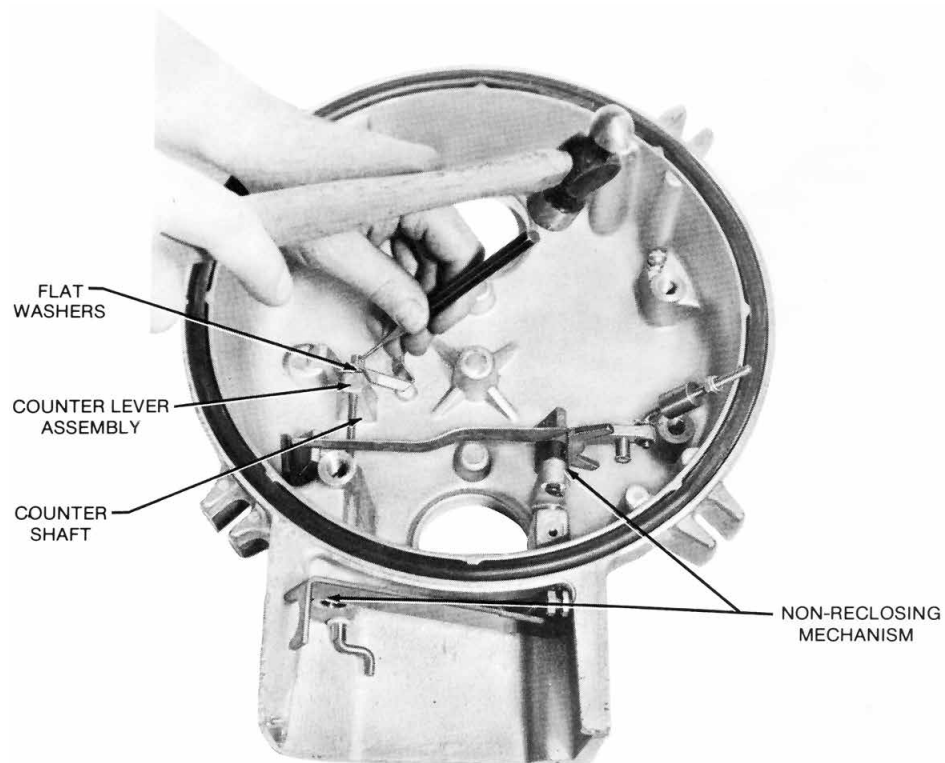

Figure 53. Driving out countershaft pins
8. Drive out the rollpin that secures the counter lever assembly to the counter shaft (Figure 53). Pull out the shaft. Note the flat washer that separates the counter lever assembly and a post in the head casting.